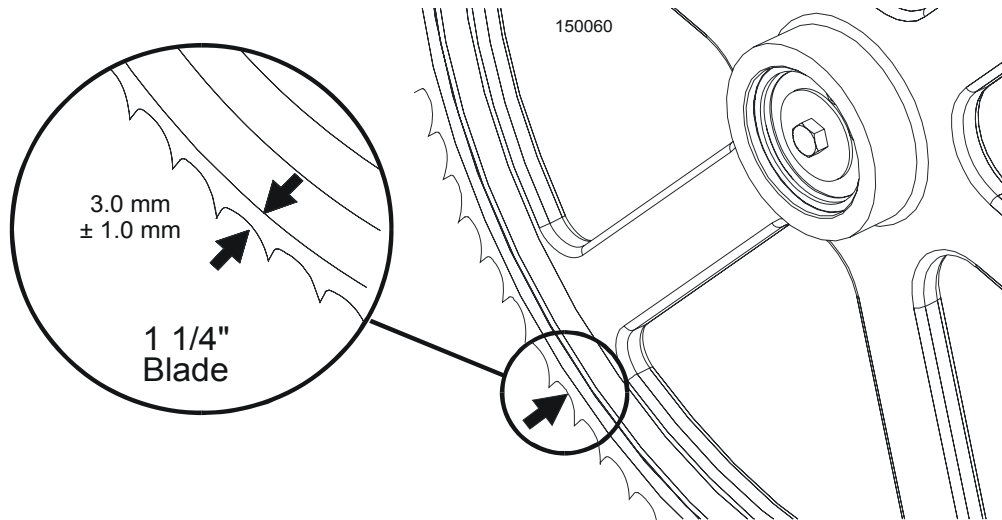

**FIG. 5-6**
**See Figure 5-6.** Use the vertical adjustment screws to adjust the idle-side blade wheel. To tilt the wheel up, loosen the bottom adjustment screw one quarter turn. Loosen the jam nut on the top adjustment screw and tighten the screw. Tighten the top and bottom jam nuts.